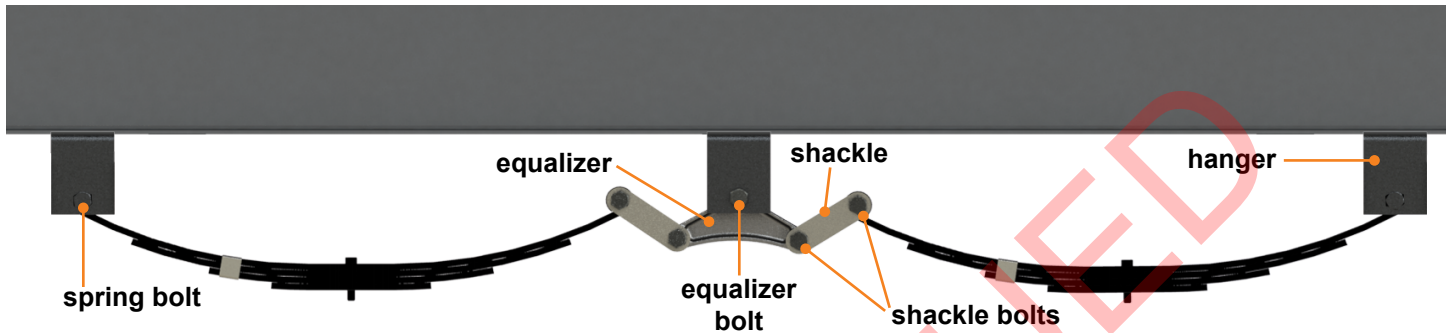

Fig.3
4. Use additional properly-rated floor jacks to support the axles. Remove the following as needed: leaf spring bolts (2), equalizer bolt (1) and shackle bolts (4) (Fig.3). Lower the axles about 2".